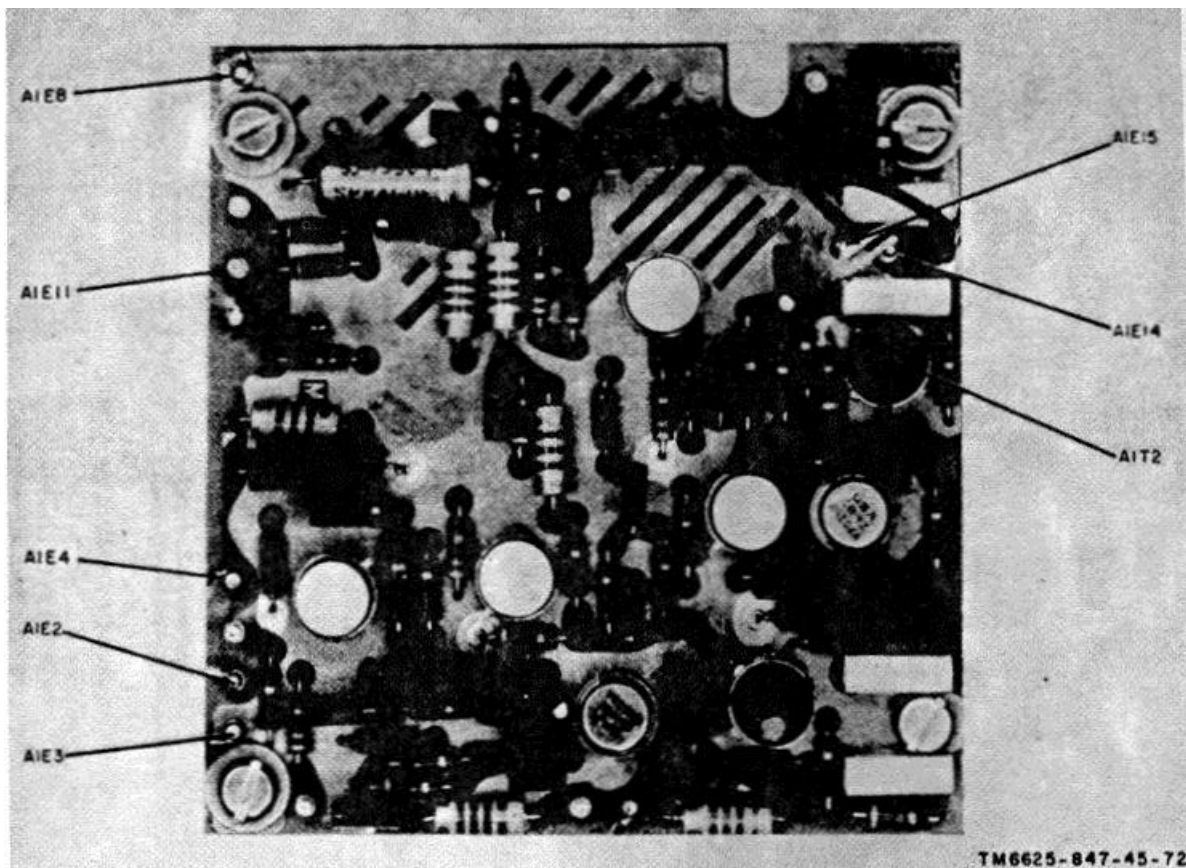

Figure 4-6. Common module tray A1A2 if. amplifier module A1.
- (1) Voltmeter, Electronic AN/URM-145.
- (2) Generator, Signal AN/GRM-50.
- (3) Potentiometer, 10-kilohms, 2 watts.
- (4) The test set ± 20 -volt dc supply.
b. Test Connections and Conditions. Connect the test equipment as shown in figure 6-20 to if. amplifier module A1. (To remove if. amplifier module A1 from tray A1A2, refer to paragraph 8-43 and figure 3-20. The fast points are shown on figure 4-6.